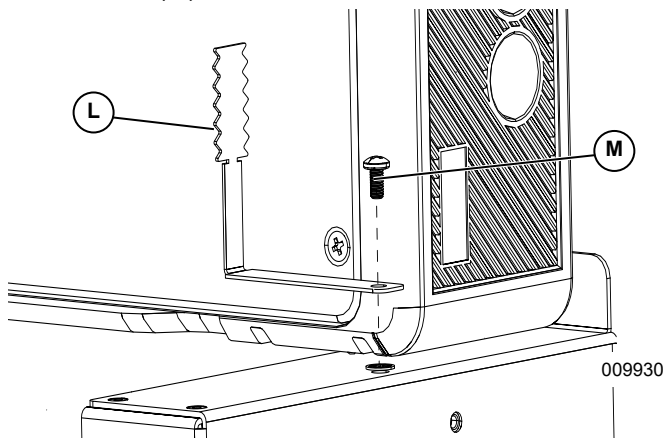

Figure 4-12. Installing Bottom Grounding Tabs
1. See Figure 4-12. Install two L-shaped grounding tabs (L) at the bottom of the module on both sides.
2. Fasten each grounding tab with M4x8 machine screw (M).